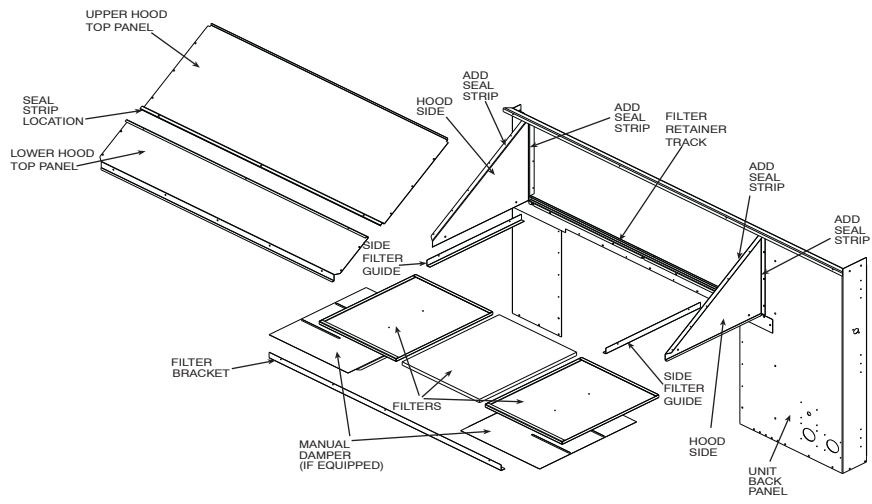
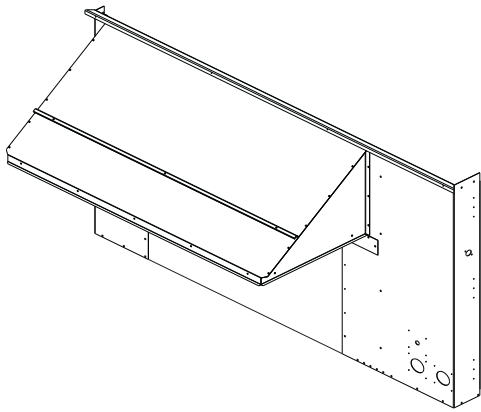

Fig. 19 – Outdoor Air Hood Details
Fig. 20 – Outdoor Air Hood Assembled
5. Apply seal strip (provided) to back flange of both hood sides where hood side connects to the unit back panel. (See Fig. 19.)
6. Apply seal strip (provided) to top flange of both hood sides where hood sides connect to the hood top panels. (See Fig. 19.)
7. Install hood sides to the back panels using the screws from Step 2. The sloped flanges point outward. The drip edges of the side panels should face outward as well. The filter guides should face inward to hold the filters in place. (See Fig. 19.)
8. Apply seal strip along the entire length of the bottom flange of the hood top. (See Fig. 19.)
9. Install the bottom part of the hood top using 4 screws provided. (See Fig. 19.)
10. Remove the packaging from filters (3) and install into the filter tracks. Slide the filters to the sides then place the last filter into the center of the filter track.
11. Install the filter retainer track along the bottom edge of the outdoor air hood using 4 screws provided. (See Fig. 19.)
12. Install top section of the outdoor air hood using 9 screws provided. (See Fig. 19.) See Fig. 20 for a picture of the assembled outdoor air hood.